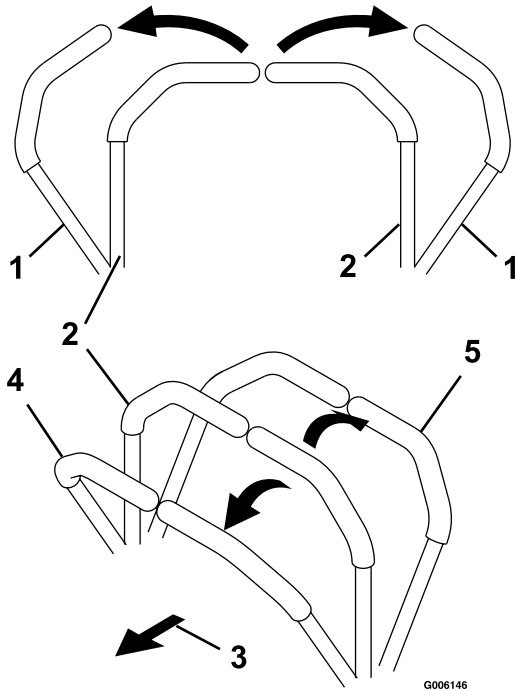

Figure 14
2. To go forward, slowly push the motion control levers forward (Figure 14).
To go straight, apply equal pressure to both motion control levers (Figure 14).
To turn, pull back on the motion control lever toward the direction you want to turn (Figure 14).
2. To go backward, slowly pull the motion control levers rearward (Figure 14).
To turn, release the pressure on the motion control lever toward the direction you want to turn (Figure 14).